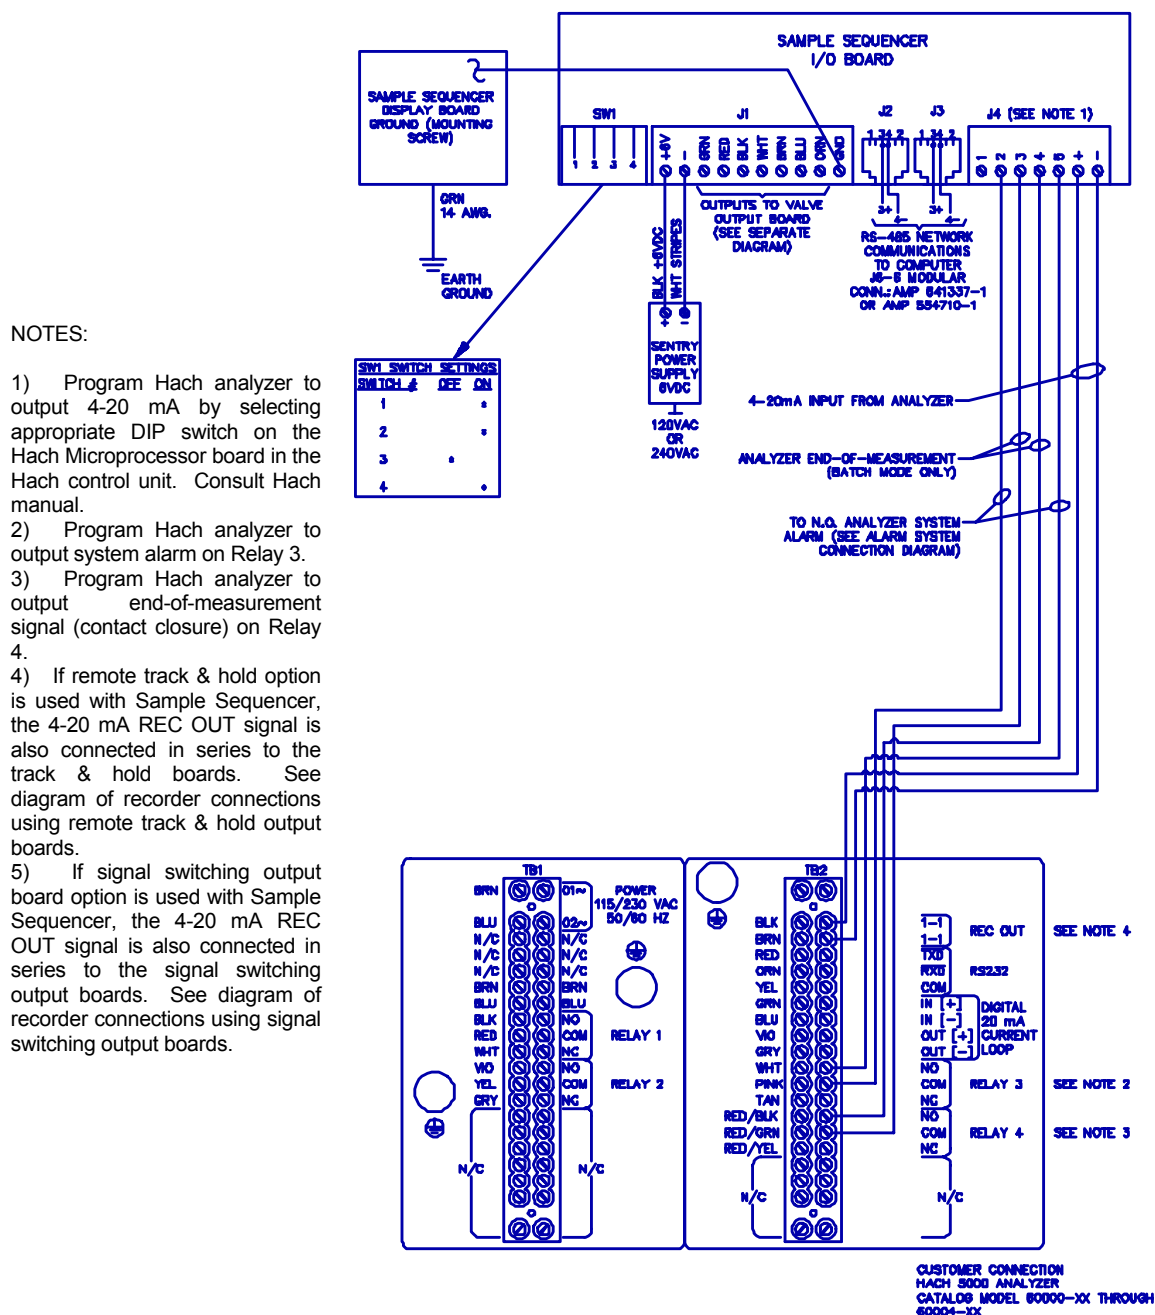

FIGURE D1 - Wiring to Hach Series 5000 Analyzer Models 60000 - 60004
Figure D1 illustrates how to connect the Sample Sequencer I/O board to a Hach Series 5000 analyzer. The Hach 5000 analyzer must be configured properly to operate with the Sample Sequencer. The analyzer should be configured to output a recorder signal of 4-20 mA. Further, the analyzer must be programmed to use relay #3 and relay #4 for System Alarm and End-of-Measurement contact closure indications, respectively. Consult the Hach analyzer manual for information about configuring the Recorder output to 4-20 mA and the System Alarm to relay 3. The following procedure describes how to configure the End-of-Measurement contact closure on the Hach 5000.
6. Verify the switches (SW1) on Sample Sequencer I/O board are positioned per Figure D1.
1. The wiring is different for the model 5500X-XX than shown in Figure D1. The changes are: (a) Connect the Sample Sequencer I/O board terminals J4-3 and J4-4 to the Hach terminals labeled NO and COM on ALRM 2. (b) Connect the Sample Sequencer I/O board terminals J4-2 and J4-5 to the Hach terminals labeled NO and COM on SYS ALRM.
7. Verify the switches (SW1) on Sample Sequencer I/O board are positioned per Figure D1.